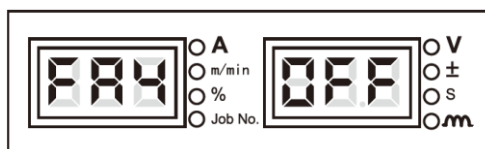

Figure 3-34 Screen for FA4 display
1. Enter the internal menu, adjust the knob on the panel of welding power source to **FA4**, the digital tubes will display as shown in Figure 3-34.